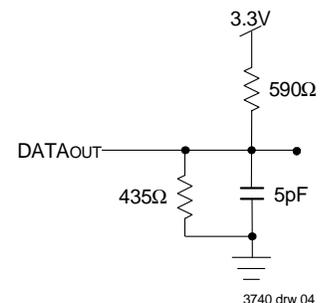

Figure 2. Output Test Load (for tLZ, tHZ, tWZ, tOW)
1. Transition is measured 0mV from Low or High-impedance voltage with Output Test Load (Figure 2).